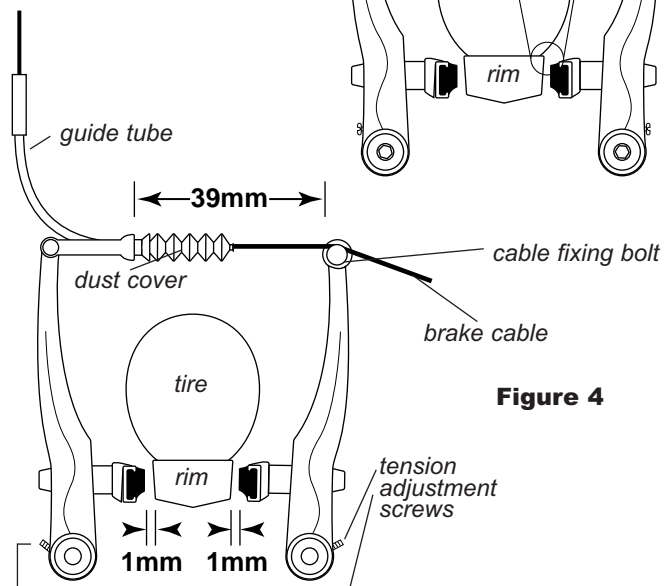

Figure 4
8. Measure the distance between the guide tube holder and the cable fixing bolt. This should be at least 39mm with both pads touching the rim (see figure 4).
11. Install the cable and housing. Thread the cable through the guide tube and install the guide tube in the guide tube holder. Thread the cable through the dust cover. Loosen the cable fixing bolt and slide the cable under the cable fixing bolt washer (see figure 4).